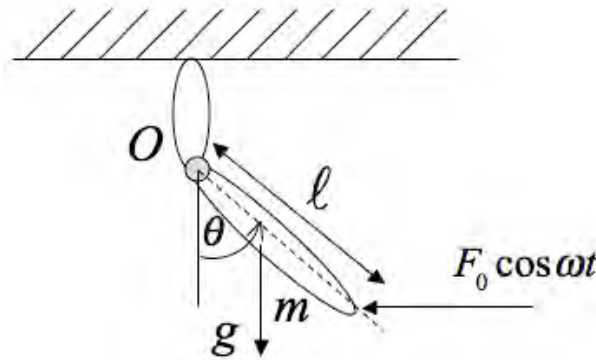

Figure P2.13 Vibration model of a forearm driven by a jackhammer
- 2.13** Vibration of body parts is a significant problem in designing machines and structures. A jackhammer provides a harmonic input to the operator's arm. To model this situation, treat the forearm as a compound pendulum subject to a harmonic excitation (say of mass 6 kg and length 44.2 cm) as illustrated in Figure P2.13. Consider point O as a fixed pivot. Compute the maximum deflection of the hand end of the arm if the jackhammer applies a force of 10 N at 2 Hz.